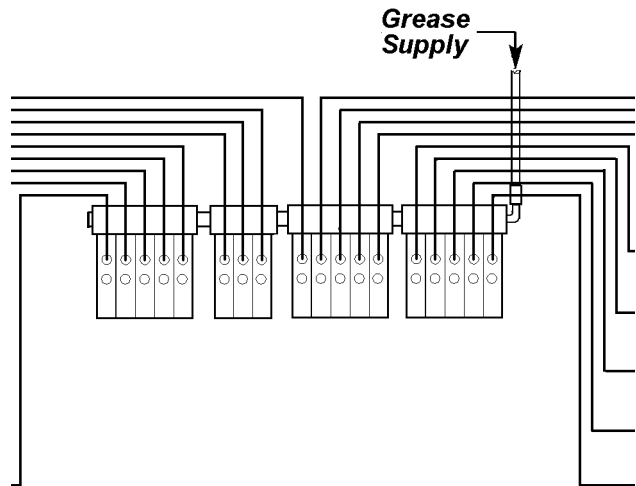

FIGURE 4-24. REAR FRAME CROSSMEMBER ["C"]
2. Adjust timer to the minimum time interval indicated on the timer faceplate. For example, set switch (3, Figure 4-24) for 2.5 minute interval using.
turning the Selector knob (3, Figure 4-24) to the desired position.